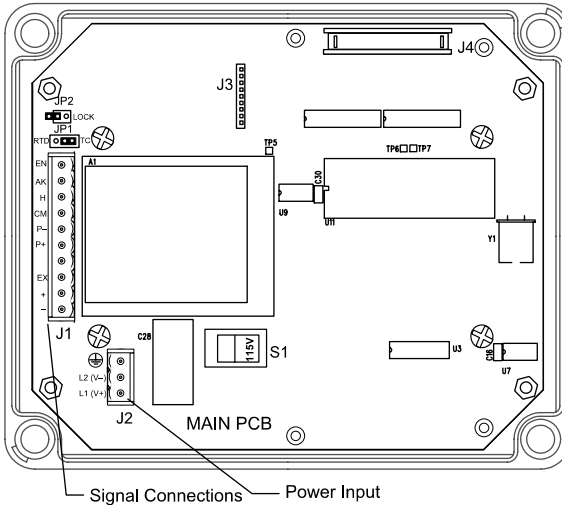

Figure 31. PD755 Connectors and Jumper Location
7. Reassemble meter prior to applying power. Front cover may remain off until programming is completed to allow installation of lockout jumper (see Figure 31, page 61).